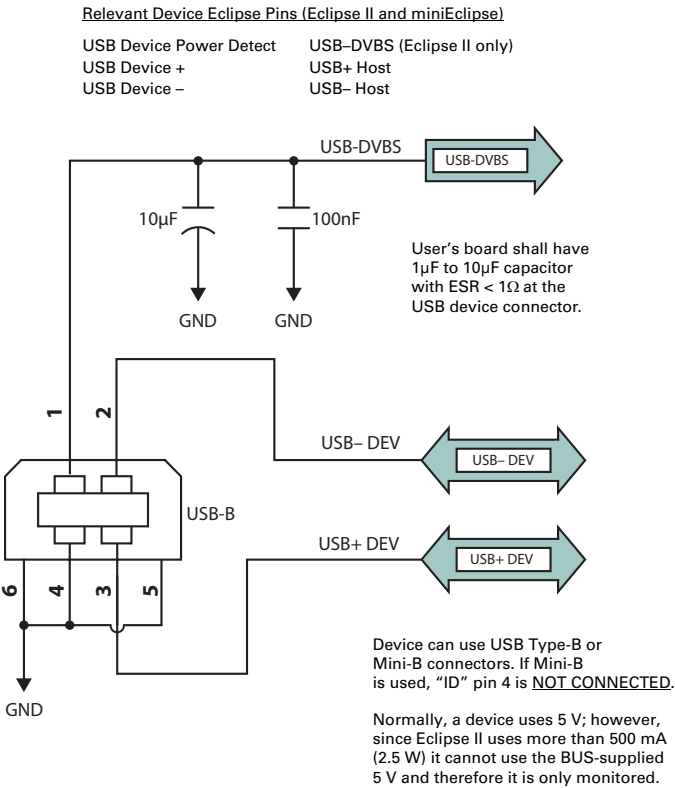

Figure 2-8: Eclipse USB device design example
- USB device port (data communication) shown in Figure 2-8 on page 20 serves as a high speed data communications port, such as for a PC